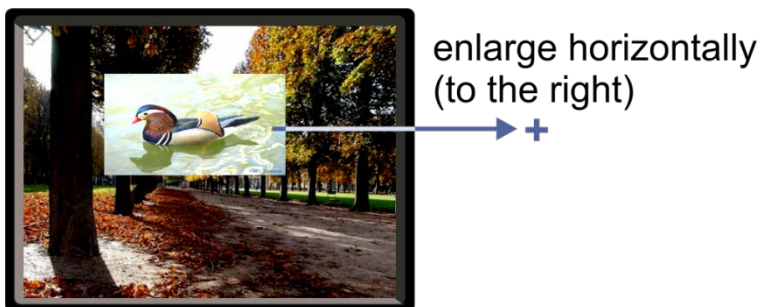

Figure 14: Increasing the Width
3. Select H width (an OSD slide bar appears) and press + to increase the width, or – to decrease the width, see Figure 14.